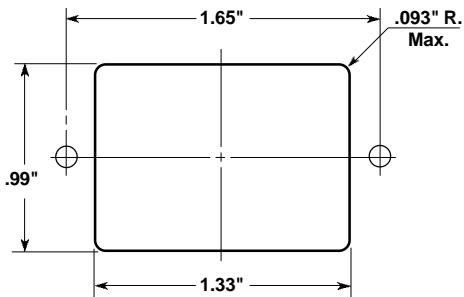

Fig. 2
- Strip each conductor as shown in Fig. 2.
- Polarized** 250 volt — Connect neutral or unswitched conductor (white or blue) to terminal marked (N). Connect line (black or brown) to terminal marked (L).